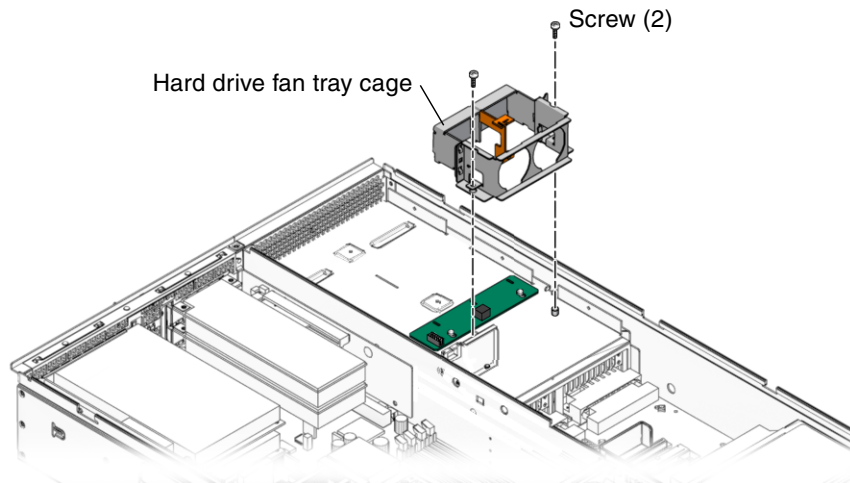

FIGURE 3-36 Hard Drive Fan Tray Cage and Screws
4. Remove the two screws (FIGURE 3-36).
5. Install the hard drive fan tray cage (FIGURE 3-36).